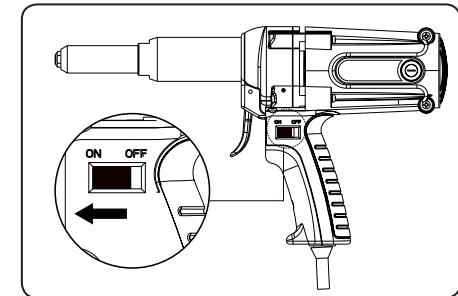

Fig.3
- Set the power switch of the rivet gun to the „ON“ position, see fig. 3.